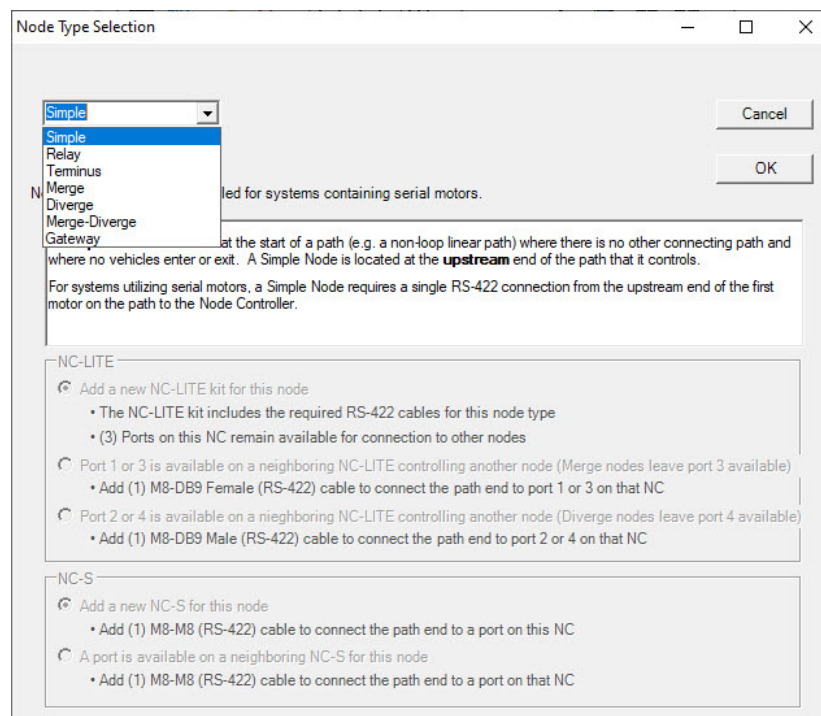

Figure 3-13: Node Type Selection Dialog
The **Node Type Selection** dialog box, see Figure 3-13, is displayed when the mouse button is released to position the node.
2. Select the appropriate node from the **Node Type Selection**, see Figure 3-13.